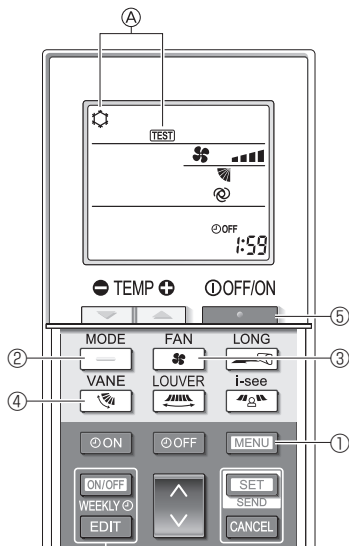

Fig. 8-5
2. Press the **MENU** button ① for 5 seconds. (Fig. 8-5)
Ⓐ [TEST] and the current operation mode are displayed. (Fig. 8-5)